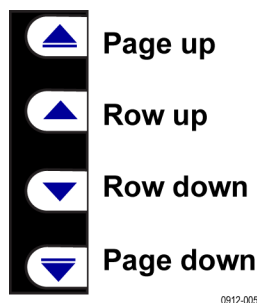

Figure 9: Display soft keys
2. Soft keys – These push buttons control the screen-specific functions that appear on the instrument display. (See Figure 9 on page 12.)